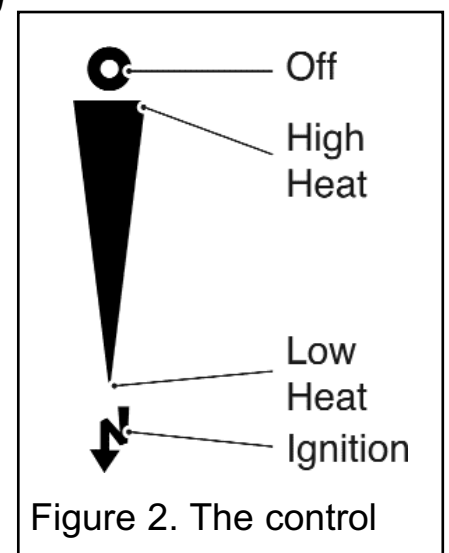

Figure 2. The control
The slide control is shown in figure 2.
3. If low heat is required, release the button. The button will automatically spring up to the low heat position shown in figure 2 (See note i below).
4. For a higher heat level slide the button upwards. The burner flames and heat output will gradually increase until the button reaches the high heat position shown in figure 2. When the button reaches the high heat position you will feel a check to its movement. **Do not slide the button above the high heat position unless you want to turn the fire off** (See note i below).